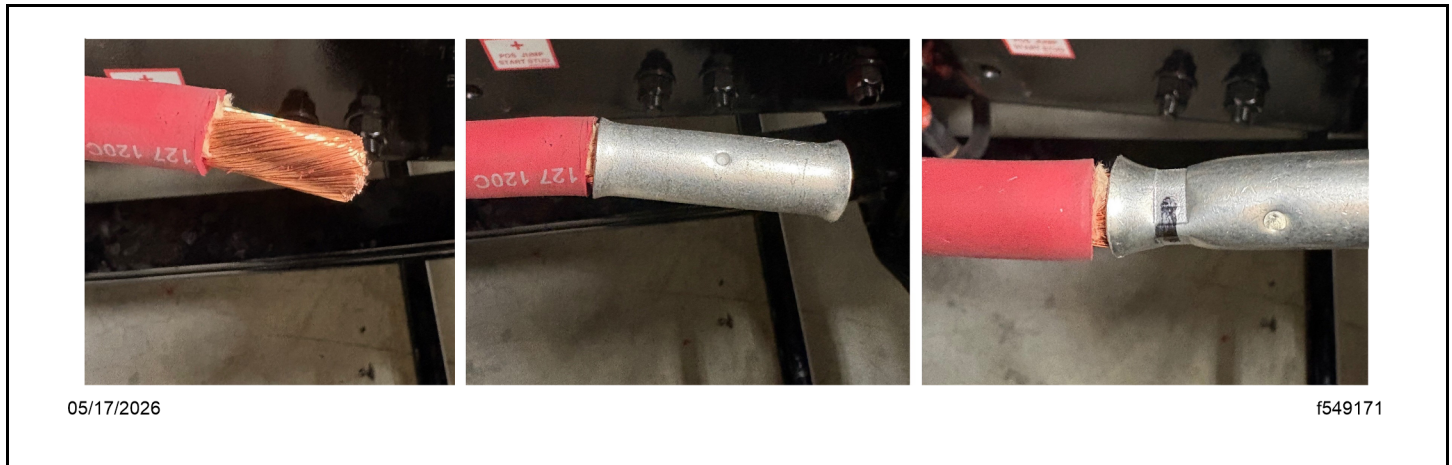

Fig 76, Installing and Crimping the Terminal
24. Crimp the butt connector terminals (PHM 8 2960 and PHM 8 2980) on the cables routed to the cab. See Fig. Fig. 76.